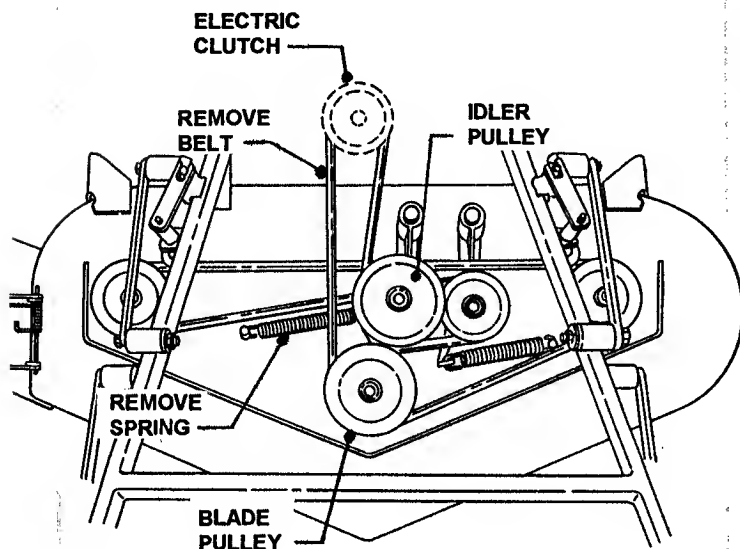

FIGURE 34
3. Remove idler spring and swing idler away from belt. See Figure 34.
2. Route new belt around center and right hand spindle pulleys. Refer to Figure 34.
4. Remove old belt from center and right hand spindle pulleys. Refer to Figure 34.